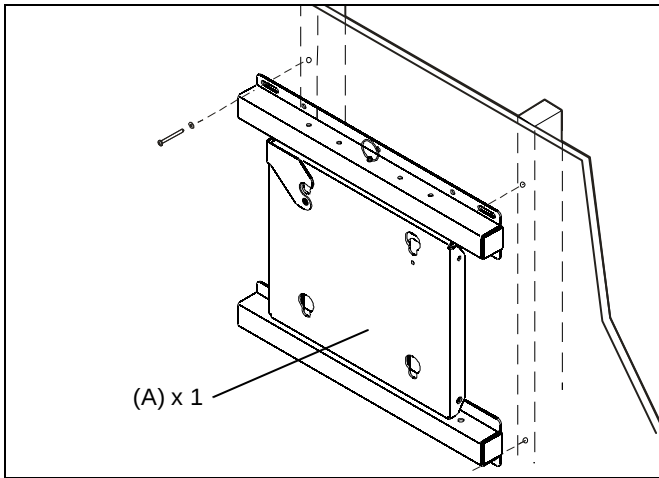

Figure 5
5. Place mount assembly (A) against wall and align mounting holes in mount assembly with pilot holes (See Figure 5).
6. Secure mount (A) to wall studs using four 1/4" x 2" lag screws, and four flat washers.